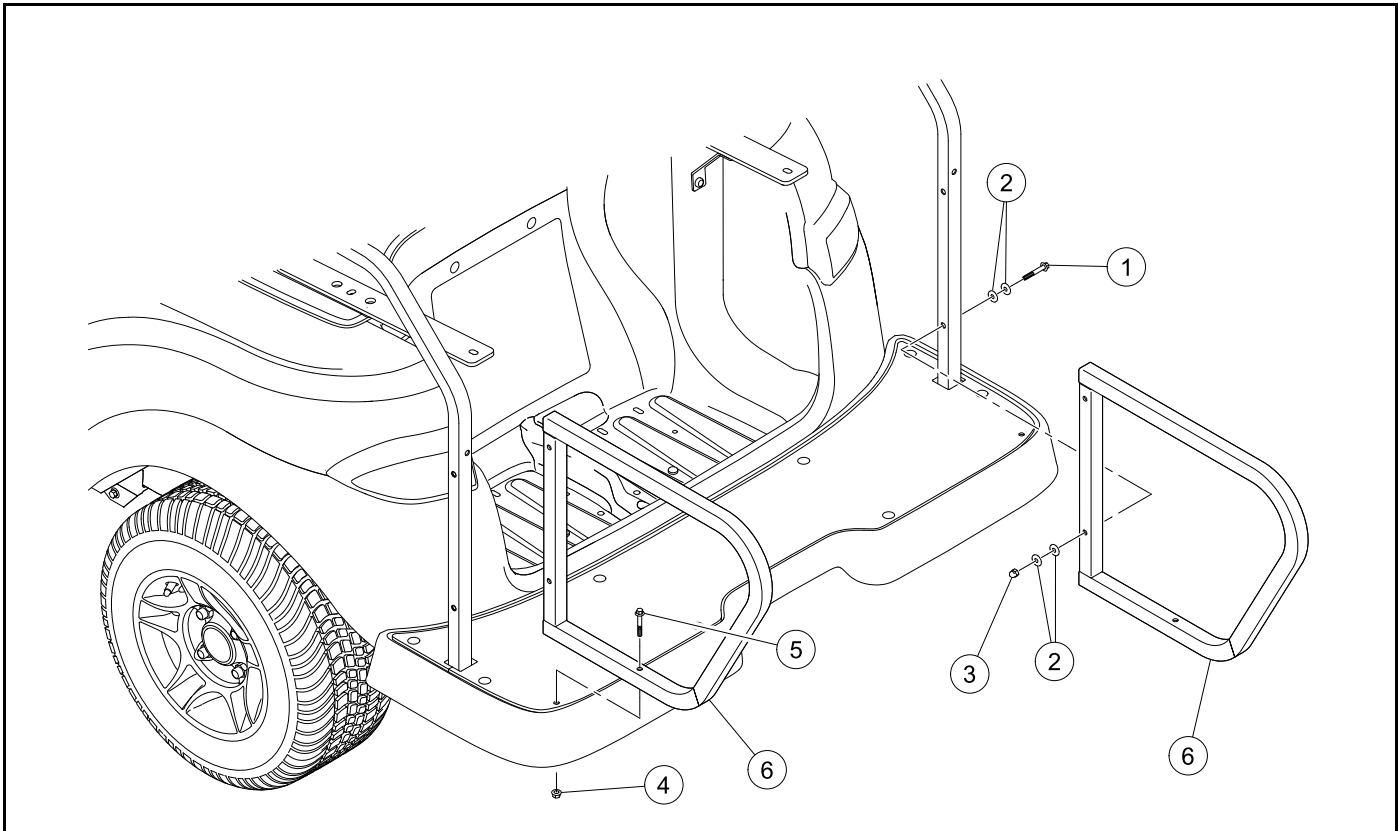

Figure 4-50 Side Frame
1. Remove the bolt (1), washers (2), and nut (3) (**Figure 4-50**).
2. Remove the nut (4) and bolt (5).
3. Remove the side frame (6).
1. Install the side frame (6) onto the foot deck (**Figure 4-50**).
2. Install the nut (4) and bolt (5). Tighten the bolt to 8.5 lb·ft (11.5 N·m).
3. Install the nut (1), washers (2), and bolt (3). Tighten the bolt to 8.5 lb·ft (11.5 N·m).